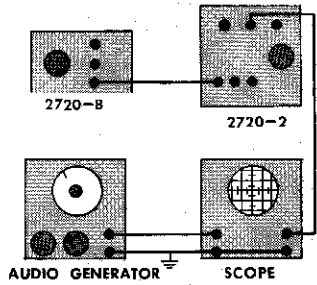
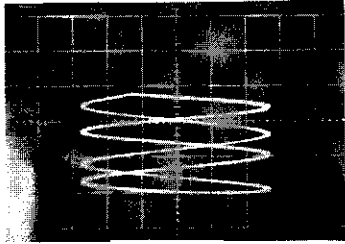

Figure 17
Figure 18
As shown in figure 17 arrange the VCO, an audio generator and oscilloscope so that the 'scope will display a Lissajous figure such as those shown in figures 18 through 22. Set the frequency of the audio generator to 260 Hz and apply a control voltage to the VCO so that a pattern appears on the 'scope. Adjust the vertical gain of the 'scope and the output of the audio source so that the pattern fills the screen. Allow the VCO to run for about 10 minutes so that temperatures can stabilize.
- (7) Press and hold the Lowest C key and observe the scope trace. If it looks like figure 18 (indicating that the VCO is running at 1/4 the frequency of the reference) you're in business. Proceed with setting the intervals starting with step 8. If the trace is not as shown in figure 18 (and chances are it won't be) adjust the ZERO CONTROL OF THE VCO (R4) until you get this trace. Repeat steps 1 through 7 until the patterns displayed in each step are stable (or experience only a slow rotation) without further adjustment of the keyboard low end trimmer or the VCO zero trimmer.